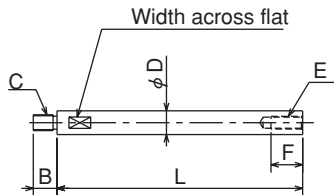

Fig.21
The dimension L in Fig.21 is determined from the distance A between the cylinder adapter and the back plate.
- Keep the dimension D in Fig. 21 for the draw bar and a material with the tensile strength 380MPa (38kgf/mm²) or more must be used.